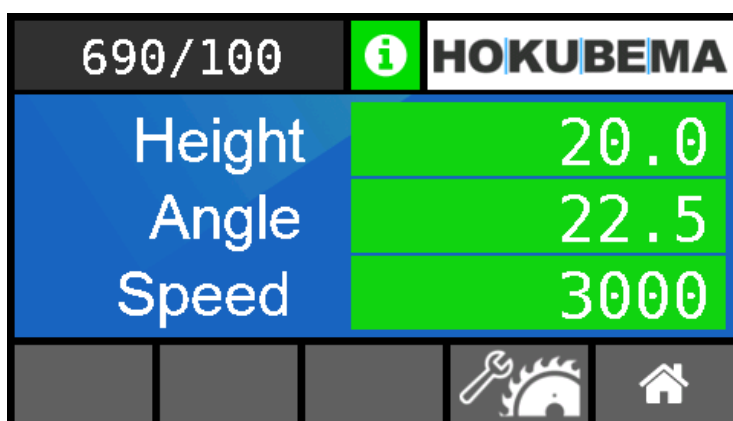

Figure 35: Machine overview - current positions and speed
- If the saw blade is incorrectly set, a value deviating from 50.0 mm (e.g. 50.5 mm) appears in the overview **"Machine >> Height"** (see ⇨ Figure 35) .
- As confirmation, the screen jumps back to the overview (see ⇨ Figure 35).
- In the overview “Machine >> Angle” (see ⇨ Figure 35) a value deviating from 0.0° now appears (e.g. 0.4°).
→ As confirmation, the display jumps back to the overview (see ⇨ Figure 35).